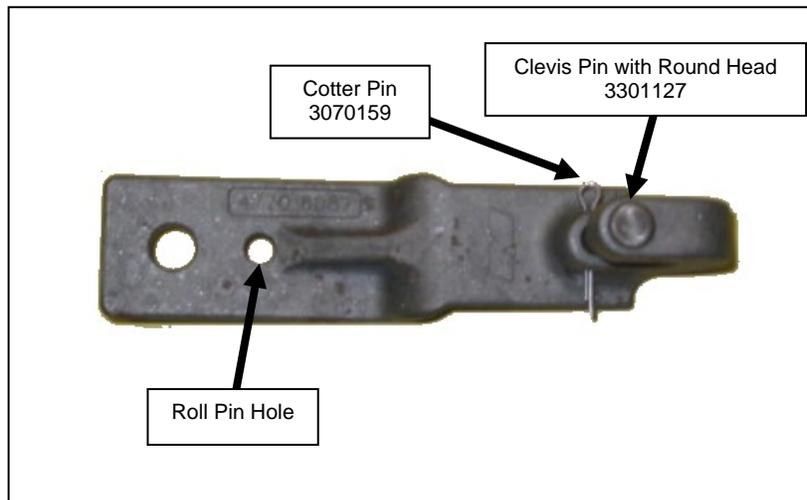
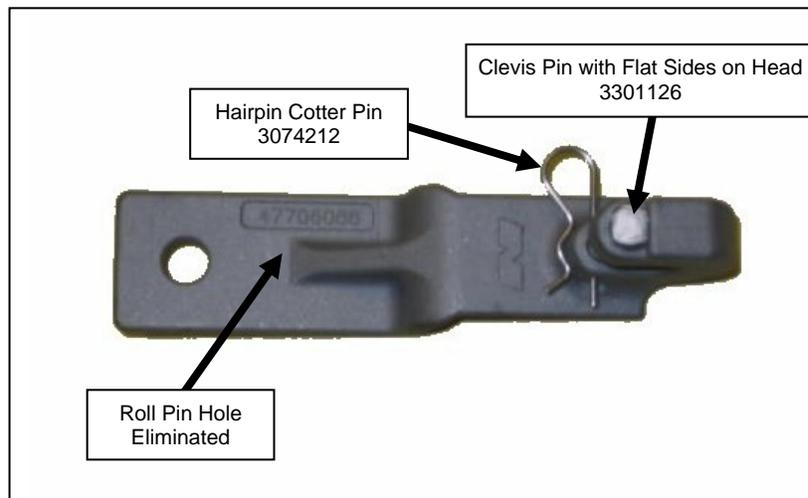

Figure 1
Figure 2
OPERATIONAL IMPACT: The Pusher Block Link p/n 47706087 (Figure 1) has been redesigned and given a new p/n **47706088**. The new Pusher Block Link adds a "D" shape to the design, which mates with the new Clevis Pin (with flat sides) p/n 3301126. The cotter pin hole in the Clevis Pin automatically aligns with the corresponding hole in the link, saving time and making it much easier to replace the pin, especially on the inside spiking gun. The roll pin hole also has been eliminated on the 47706088 Pusher Block Link. See Figure 2. Customers who do not use the breakaway pusher blocks will have to drill out the link for a roll pin.
- 97415059 Assembly Drawing (see Figure 1)
- 97415060 Assembly Drawing (see Figure 2)